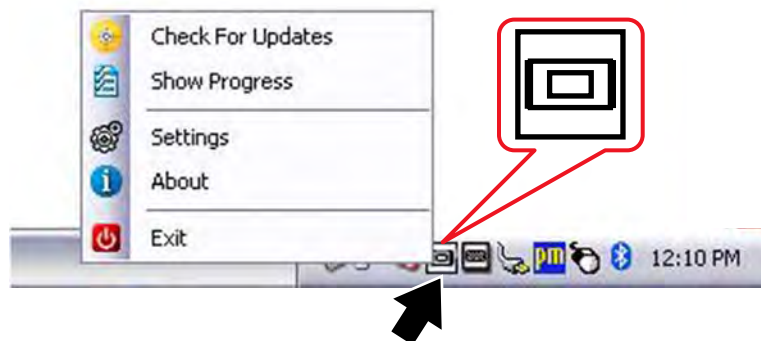

Figure 15-3 ShopStream Update Tool icon and menu
1. Select the SST icon in the system tray to open the menu (Figure 15-3).